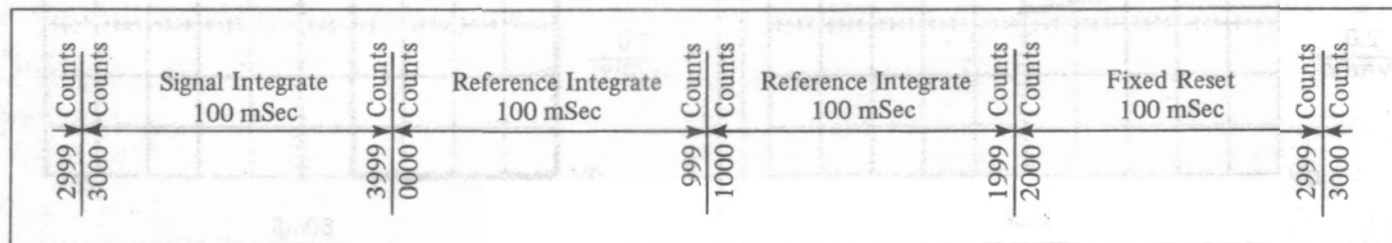

Figure 5.1 - Danameter Control Signals
5.1.1 The Danameters have control signals, which, if observed with an oscilloscope, do not reveal the direct timing relationship of the digitizing sequence between the analog and digital chip. There are four distinct time periods, controlled by the 8 to 10 KHz clock signal from the digital chip, which will be 100 to 125 mSec in duration, due to the clock frequency. See Figure 5.1.